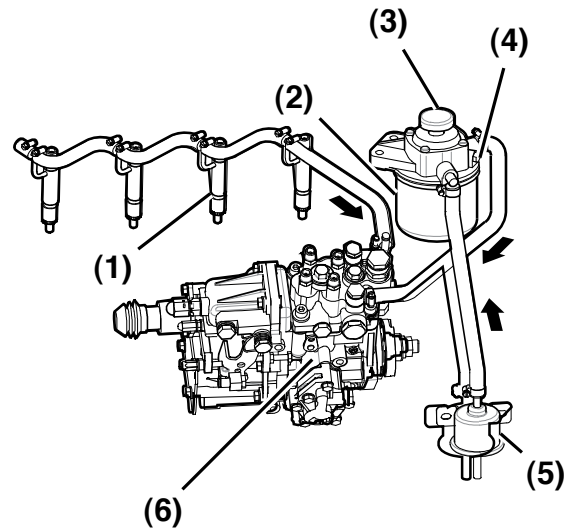

Figure 6
3. Loosen the air bleed screw (**Figure 6, (4)**) 2 - 3 turns.
4. Push up and down on the priming pump (**Figure 6, (3)**) to release air out of the air bleed screw.